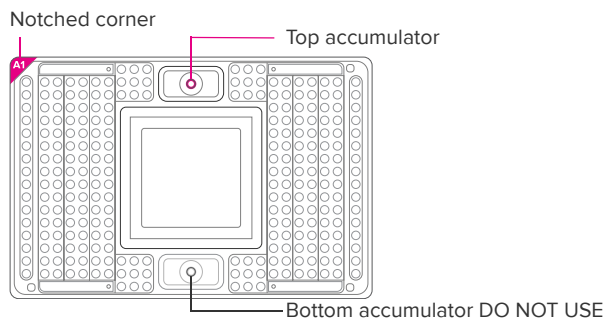

Figure 5. Top accumulator on the 192.24 IFC
- 3 Inject control line fluid into the top accumulator on the IFC (see Figure 5). Use the entire contents of the syringe.